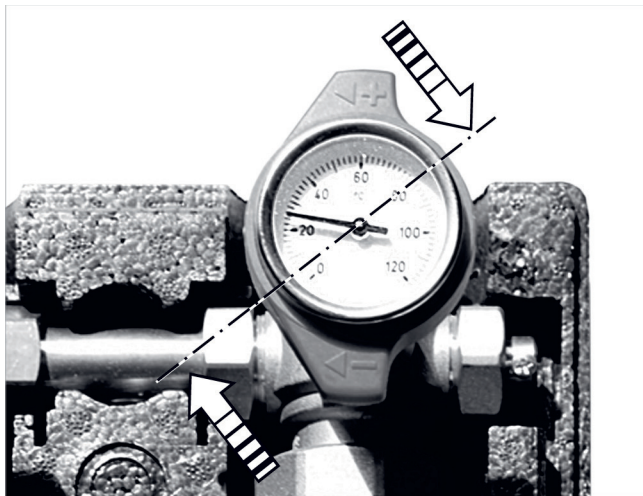

Fig. 4: Ball valve with built-in thermometer
- When the ball valve handle is at a 45° angle (dashed line in → Fig. 4), the gravity brake is open.